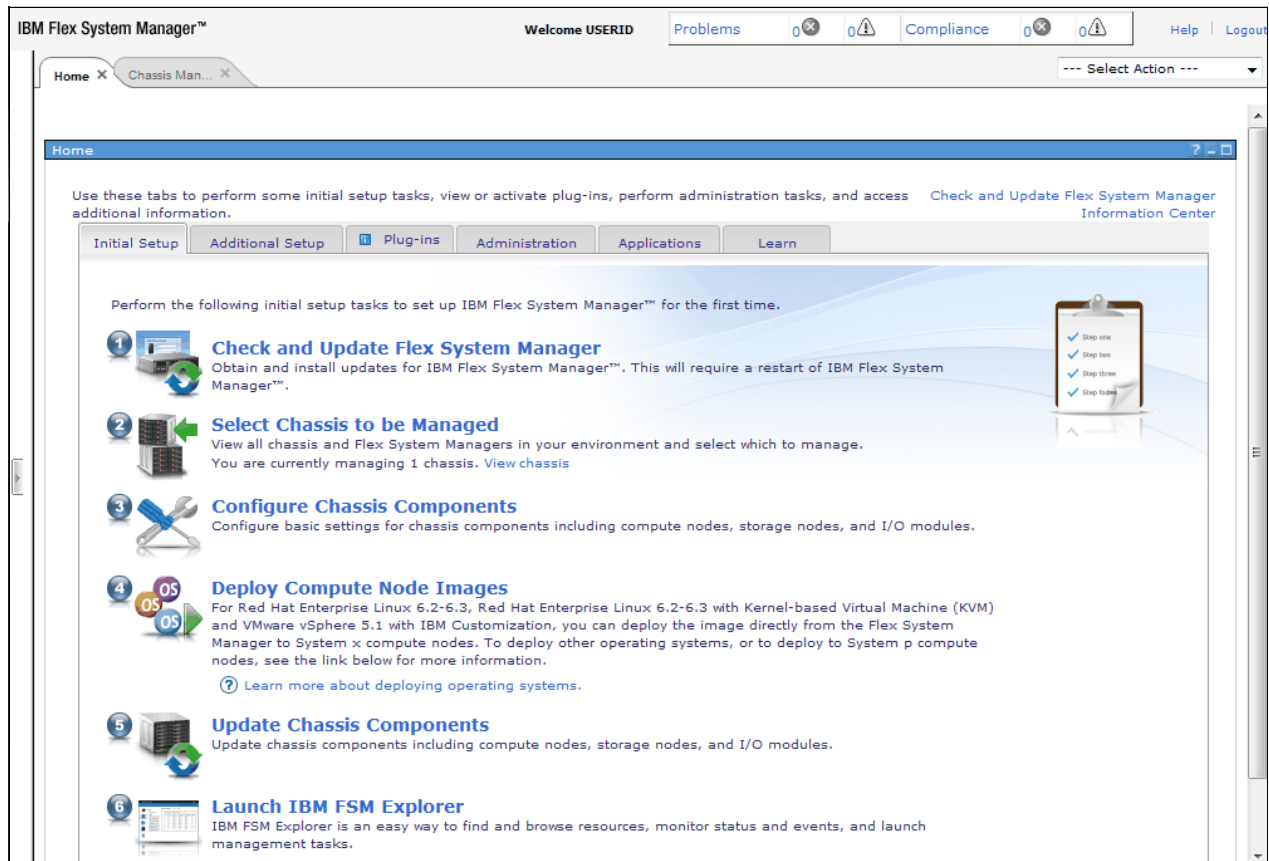

Figure 3-46 FSM - Startup Page
3. After a successful login, it takes you to the default Home page of IBM Flex System Manager. Figure 3-46 on page 117 shows the FSM Home page.
Home page as shown above in Figure 3-46, has six tabs which helps you with setting up and administer the system.